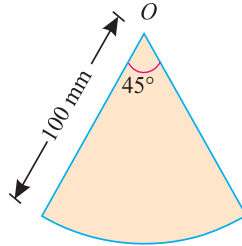

Fig. 6.16.
- 7. A plane lamina of radius 100 mm as shown in fig 6.16 given below: